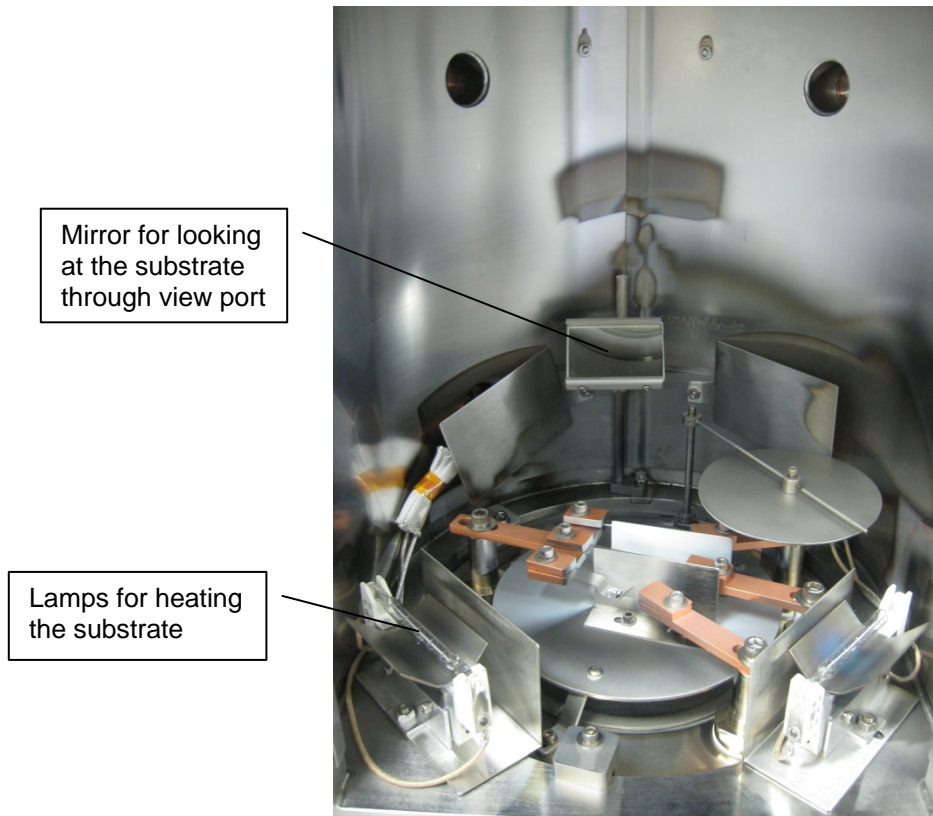

Figure 5: Chamber with door open.
- e) The chamber looks like as shown in Figure 5. Do not scratch any vacuum seal surface. Inside of the chamber needs to be handled very carefully with clean gloves. Also use face mask to avoid contamination.